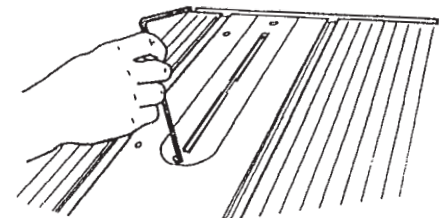

Figure B-51
- Use a 5/32" Allen wrench to remove the table insert, as demonstrated in Figure B-51.